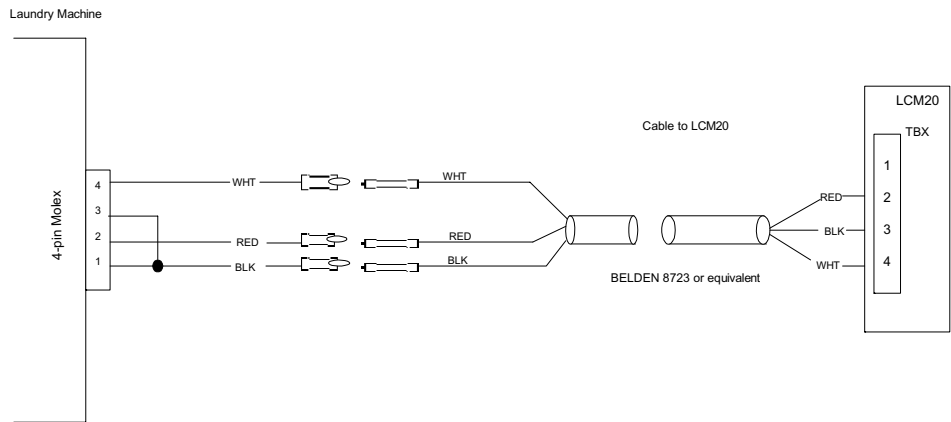

Figure 14: Alliance/Speed Queen Machine
- 2 Route the 4-conductor cable from the LCM20 into the machine (see Figure 14).
- 5 Insert the four-pin Molex connector into the circuit board, as illustrated in **Figure 14**.